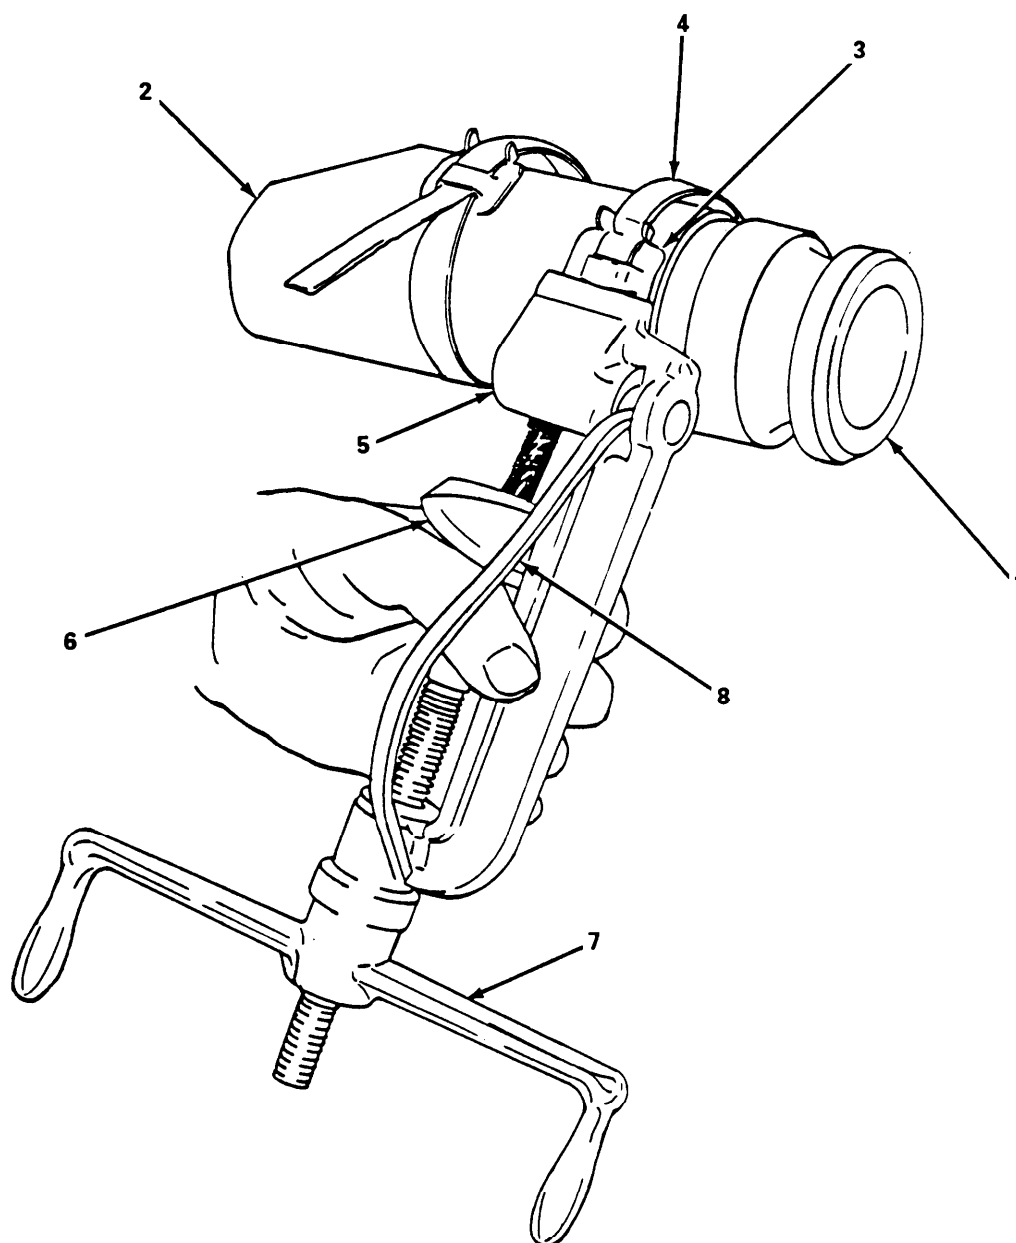

Figure 4-1. Installing Band on Hose Assembly.
a. Repair. (figure 4-1)
- (a) Cut band and remove damaged coupling (1).
- (b) Install barbed end of new coupling in hose (2) end.
- (c) Slide buckle (3) on banding material (4), bend approximately 1 in. of banding material under buckle. Wrap banding material around hose twice passing through buckle each time. Position band approximately 1/2 in. from shoulder of coupling.
- (d) Place band in open slot of banding tool nose (5) and in slide.
- (e) With thumb on band gripper lever (6), apply tension by turning handle (7) of tool clockwise. After tension is created, it is no longer necessary to hold band gripper lever as it locks itself under tension.
- (f) Place finger on banding material (4) at buckle bridge while tensioning with tool handle (7) in a clockwise direction.
- (g) When banding material stops moving through buckle (3) as handle (7) turns, stop turning. Maximum tension is being exerted by banding material around hose.
(1) Couplings. To replace a defective coupling, proceed as follows:
- (b) Ensure static wire extends beyond end of hose (2) a minimum of 1/4 in. Install barbed end of new coupling in hose end. Ensure static wire is in contact with coupling.
- (c) Slide buckle (3) on banding material (4), bend approximately 1 in. of banding material under buckle. Wrap banding material around hose twice running end through each time.
- (g) When banding material stops moving through buckle (3) as handle (7) turns, stop turning. Maximum tension is exerted by banding material around hose.